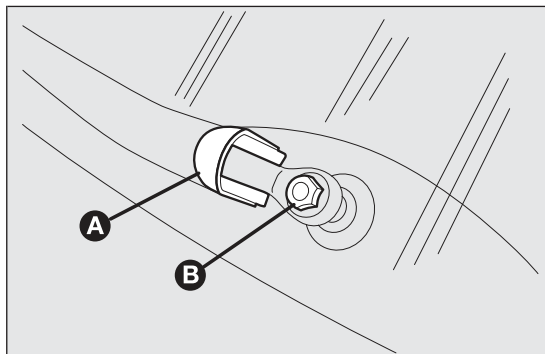

fig. 213
- ☐ raise cover A fig. 213 and remove the arm from the car undoing the nut B that fastens it to the pivot pin;